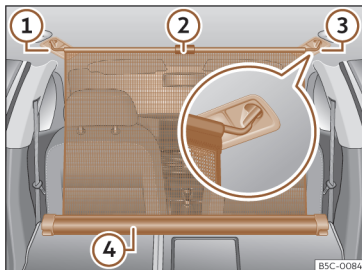

Fig. 137 In the luggage compartment: net partition hooked in place with the rear seat backs folded down.
- Pull up handle»» **Fig. 137** ② to remove the net from the casing»» **Fig. 137** ④.
- Hook in the net partition on the right or left side»» **Fig. 137** ③ (magnified image).
- Hook in the net partition into the housing on the other side»» **Fig. 137** ① by pulling the rod.
The net partition is properly assembled when the T-shaped ends are firmly secured in the corresponding housings»» **Fig. 137** ③ and ①.
- Roll up the net into the casing»» **Fig. 137** ④ lowering it with your hand.